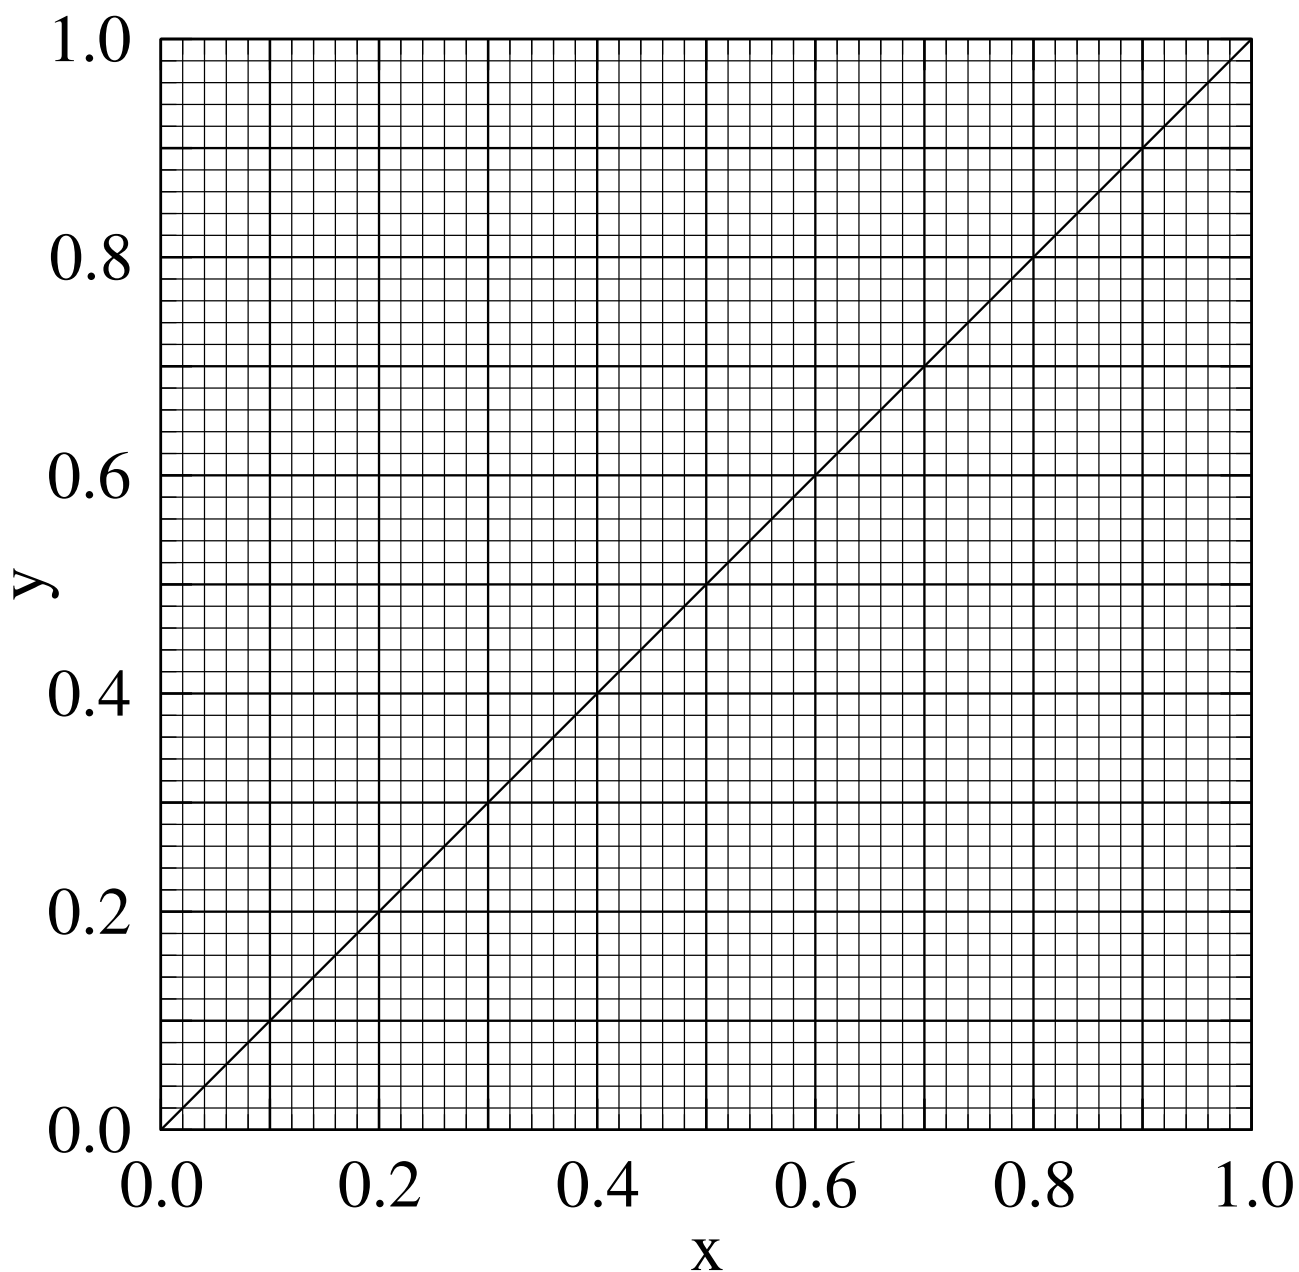

Figure 15: A blank chart for plotting VLE/operating-line data on. For use in Q. 6.23.
- a) Calculate the number of theoretical trays required to perform this distillation **and** the feed tray number. A blank VLE graph is given in Fig. 15.